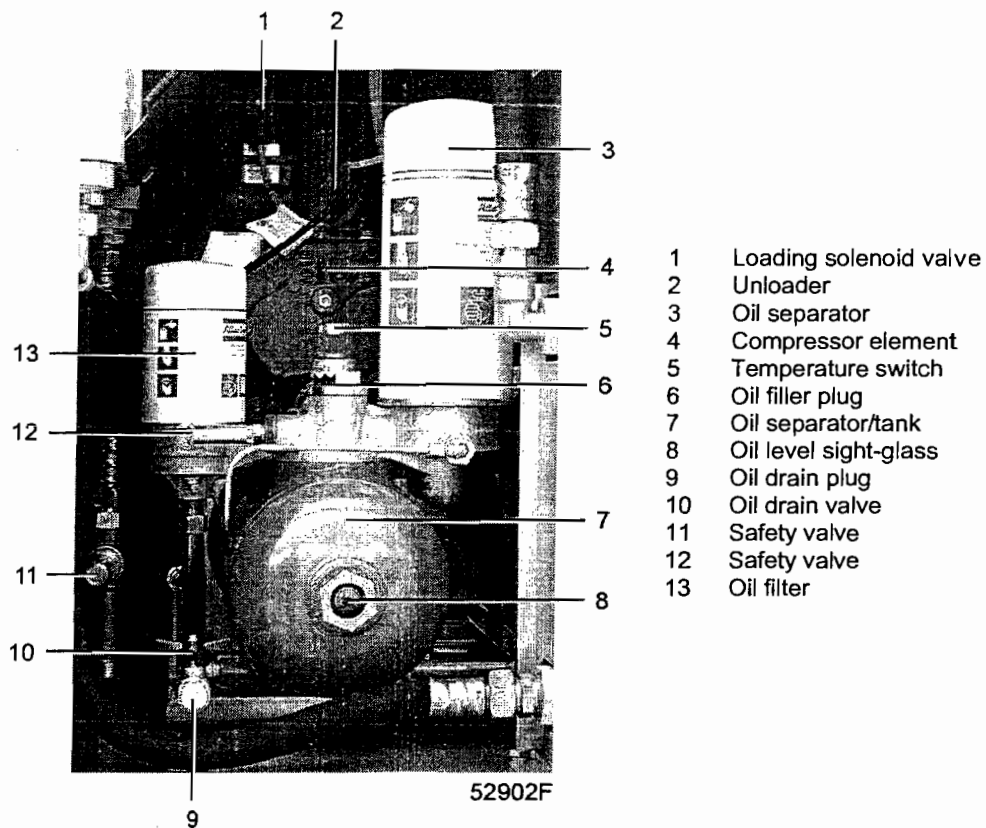

Fig. 3.6 View on oil system GX11 (typical example)
6. The oil level sight-glass (8-Fig. 3.6) should be between 1/4 and 3/4 full.
1. Three minutes after stopping, the oil level sight-glass (8-Fig. 3.6) should be between 1/4 and 3/4 full.
5. Regularly check the oil level. Three minutes after stopping, the sight-glass (8-Fig. 3.6) should be between 1/4 and 3/4 full. If necessary, move start/stop switch (4-Fig. 1.9) to 0, wait until the compressor has stopped (between 45 and 60 seconds), depressurize the oil system by unscrewing oil filler plug (6-Fig. 3.6) **one turn** and wait a few minutes. Remove the plug and top up oil, until the sight-glass is 3/4 full. Fit and tighten plug (6).
3. Depressurize the compressor by opening plug (6-Fig. 3.6) **one turn** and by opening condensate drain valves (9-Figs. 1.5 and 1.6 / 12-Figs. 1.2 up to 1.4).
Close air outlet valve (2-Fig. 2.7) and depressurize the compressor by opening plug (6-Fig. 3.6) **one turn** and by opening condensate drain valves (9-Figs. 1.5 and 1.6 / 12-Figs. 1.2 up to 1.4).